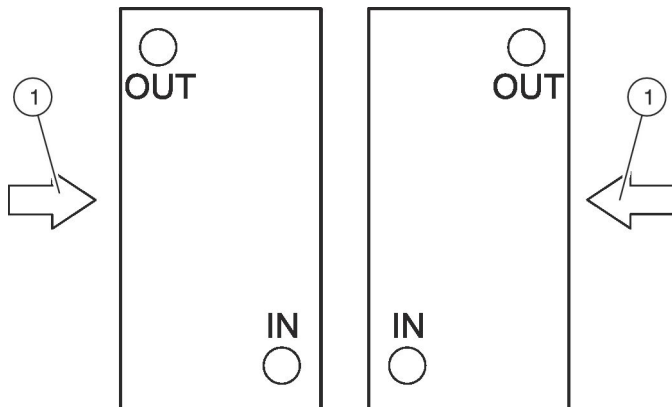

Fig. 30: Heat exchangers in a counter flow arrangement
*Stickers on the connection side of the heat exchangers indicate the flow ( Fig. 30 /IN) and return connections ( Fig. 30 /OUT) for a counter flow arrangement.*